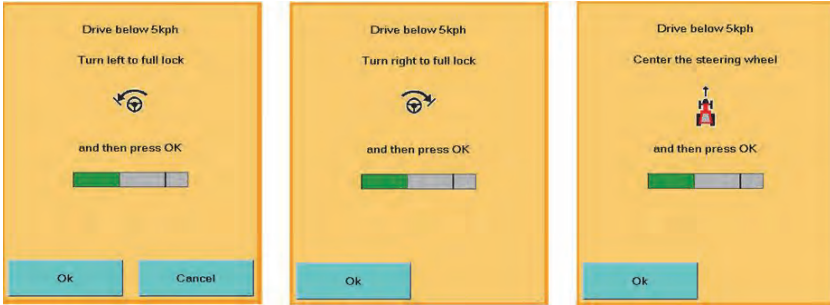

Figure 2-17: Coarse WAS screens - left and right lock and center
1. Press **4. Coarse WAS** - the 'Turn left to full lock' screen appears (Figure 2-17, first image).
Press **Ok** - the 'Turn right to full lock' screen appears (Figure 2-17, center image).
Press **Ok** - the 'Center the steering wheel' screen appears (Figure 2-17, right image).